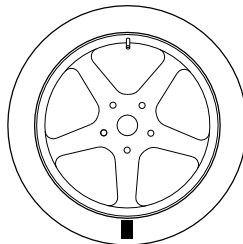

Fig. F5.6 - Marking the tyre at 180° respect to the valve
- Remove the wheel from the shaft, remove the tyre bead, rotate it so that the mark is at 180° respect to the valve (see figure F5.6);